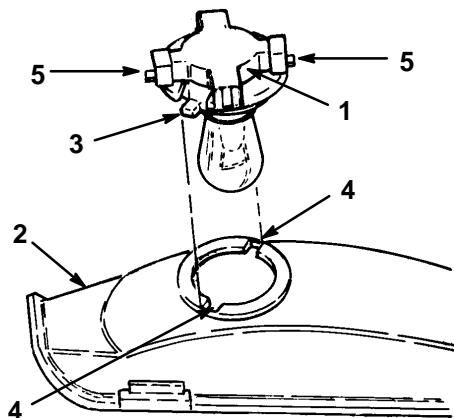

Figure 51
3. Rotate the bulb holder 1/4 turn counterclockwise and remove it from the reflector (Fig. 51).
2. The bulb holder has two tabs (Fig. 51). Align the tabs with the slots in the reflector, insert the bulb holder into the reflector and rotate it 1/4 turn clockwise until it stops.